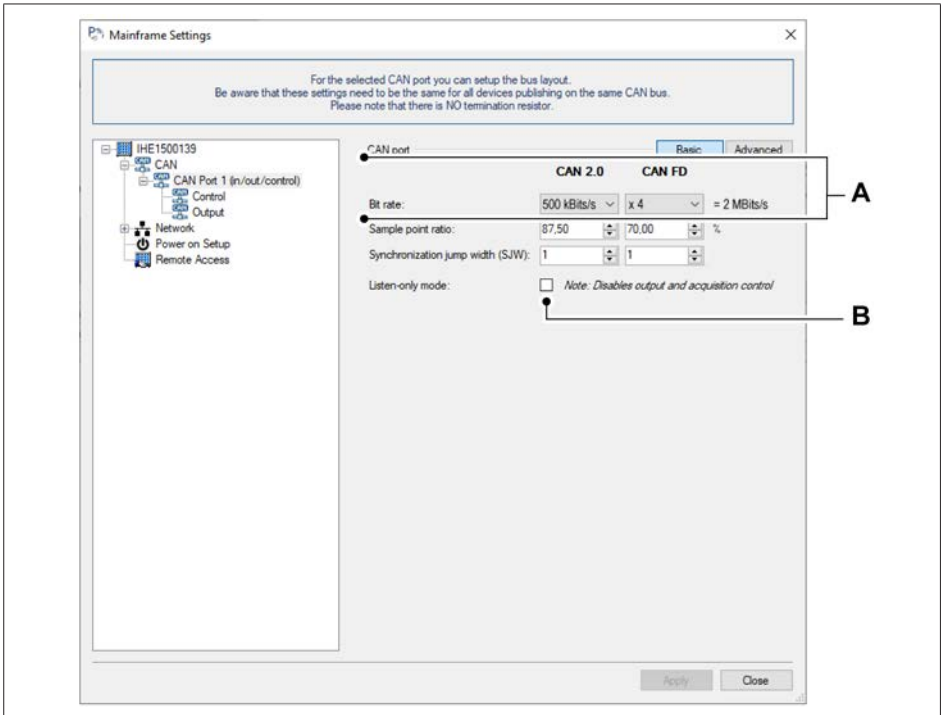

Fig. 12.24 Mainframe Settings-CAN bus settings
- Select the **CAN port setup...** button to open the **Mainframe Settings** as shown in Fig. 12.24.